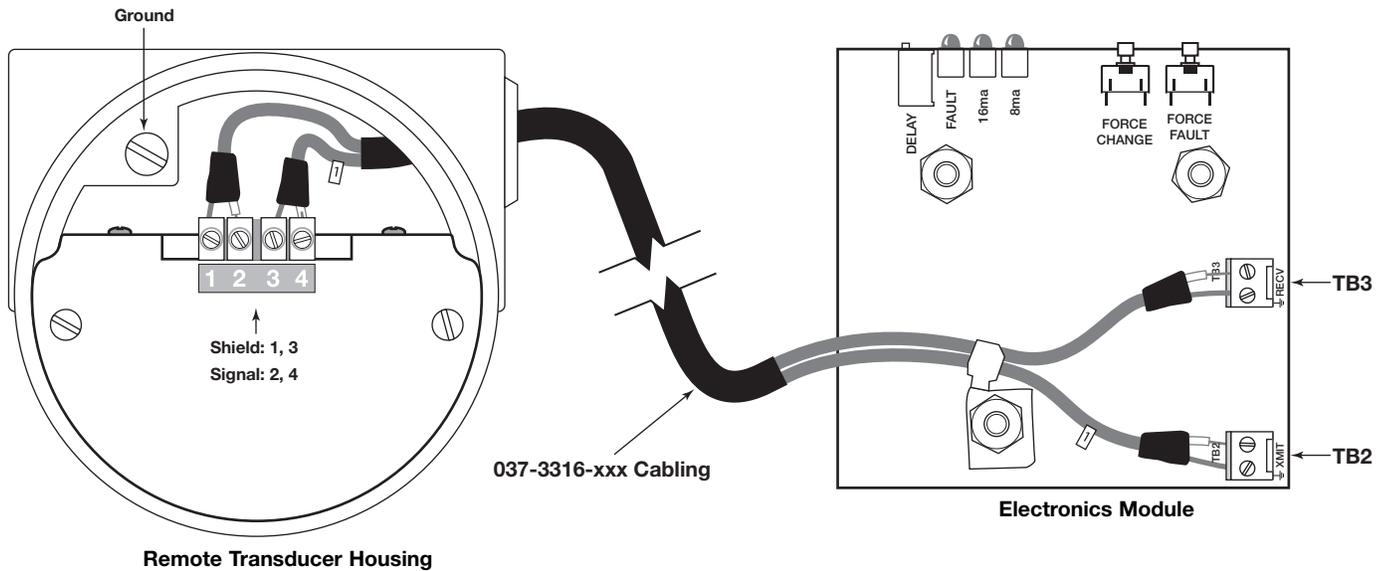

Figure 9
Remote mount Model 961 units have a “1” in the 8th digit (961-XXXX-1XX) of the model number. The 037-3316-XXX cabling is connected at the factory on the electronics end, and secured with a cable tie. The other end of the cabling is connected by the user inside the remote transducer housing at a terminal block marked as 1 2 3 4 on a blue label. See Figure 9.
**NOTE:** The 037-3316-XXX cabling is connected at the factory on the electronics end. TB2 and TB3 connections are shown in Figure 9 in the event the cable needs to be reattached.